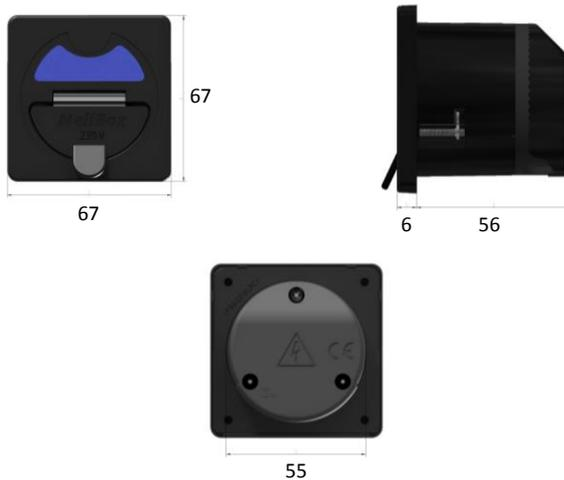

Figure 1: Supply unit dimensions [mm]
- Make sure that there is sufficient space at the assembly site (see Figure 1).